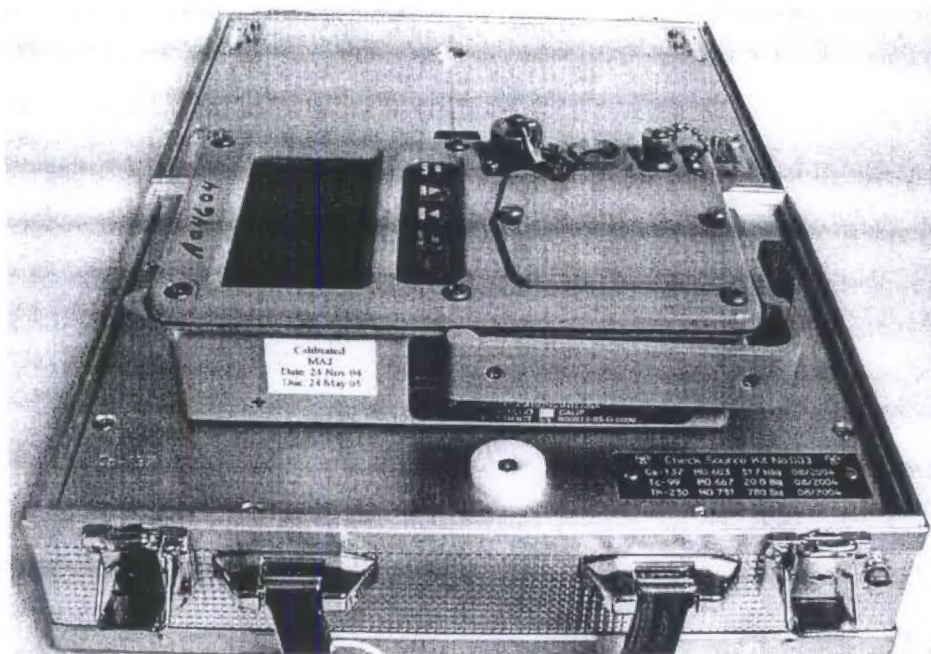
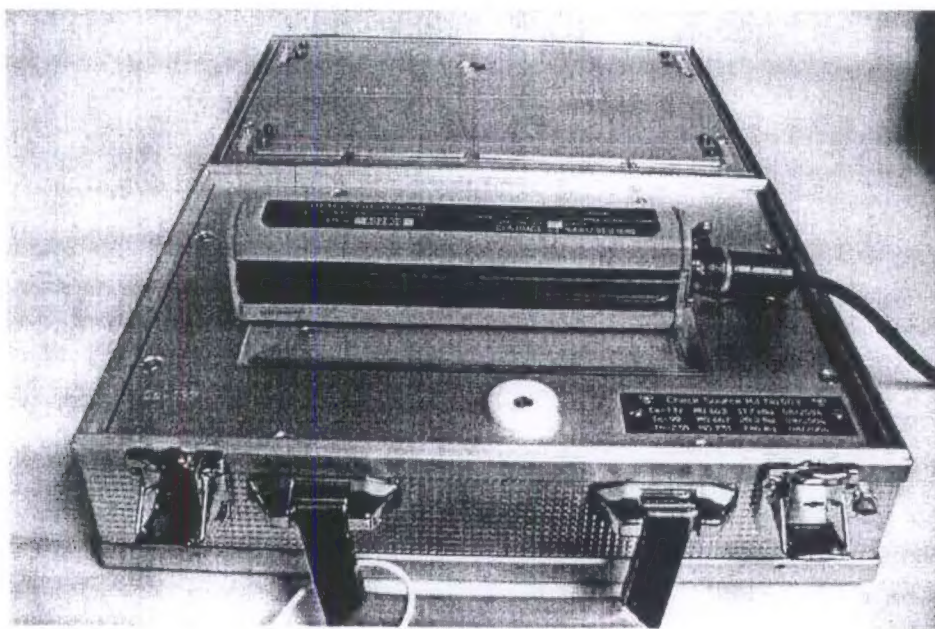

Figure 3. Configuration of IM-265/PDQ or IM-266/PDQ during source check.
Figure 4. Configuration of DT-680/PDQ during source check.
2.0. SOURCE RESPONSE CHECK FOR IM-265/PDQ, IM-266/PDQ or DT-680/PDQ. Unlock and open the kit on a level surface in an area with low background radiation. If checking the IM-265/PDQ or IM-266/PDQ, place the instrument on the embossed area of the source housing plate with the detector centered over the source well (see Figure 3). If checking the DT-680/PDQ it should be oriented with the detector end over the source well (see Figure 4).